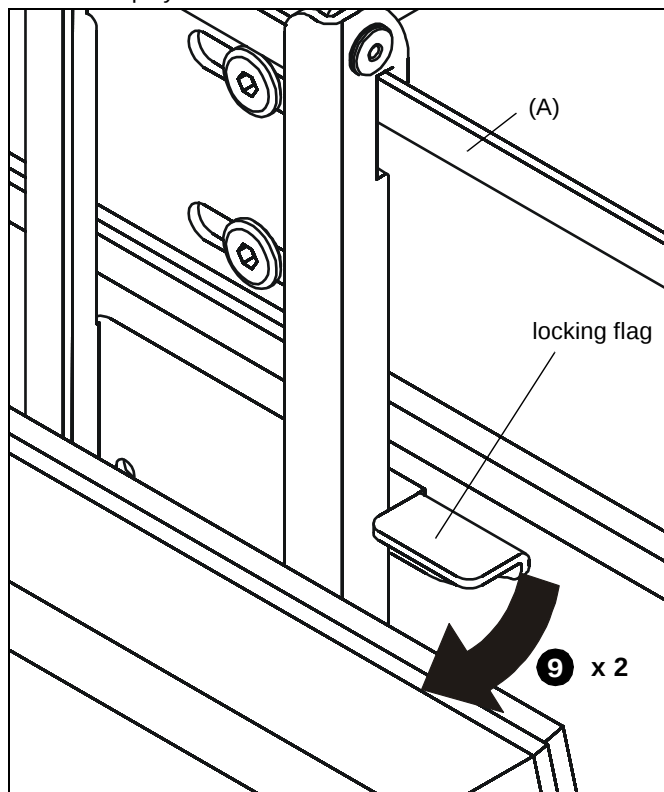

Figure 5
9. Rotate flags on each interface bracket down to the closed position in order to lock brackets to wall plate. (See Figure 5)